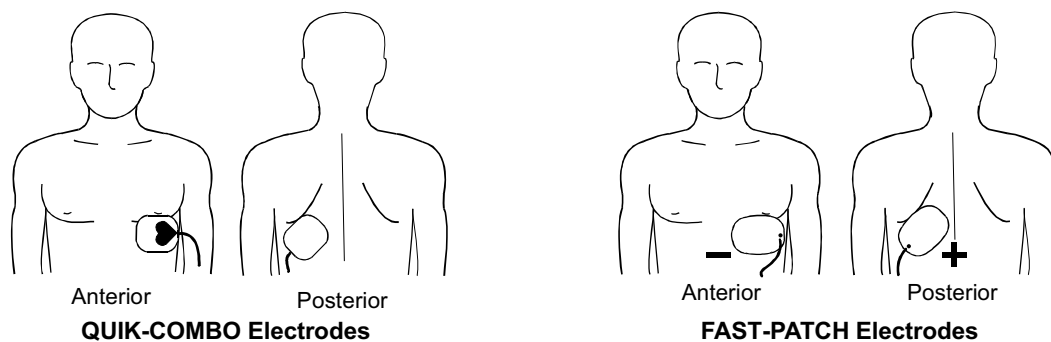

Figure 4-2 Anterior-posterior Placement
- 1 Place either the ♥ or – therapy electrode over the left precordium as shown in Figure 4-2. The upper edge of the electrode should be below the nipple. Avoid placement over the nipple, the diaphragm, or the bony prominence of the sternum if possible.
- 2 Place the other electrode behind the heart in the infrascapular area as shown in Figure 4-2. For patient comfort, place the cable connection away from the spine. Do not place the electrode over the bony prominences of the spine or scapula.